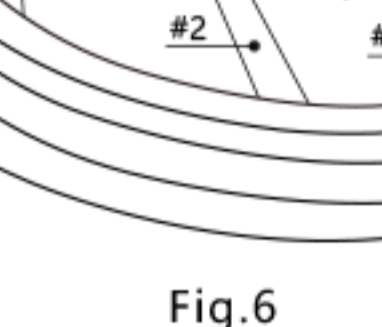

Fig.7
- 2.Take out the 3.5mm adapter to the sound hole, disconnect the 3.5mm plug and the socket, put a wire buckle on the end of the 3.5mm plug and the 3.5mm socket, and move it to the fixed position found inside the guitar. Fix the 3.5mm socket first. Use Use your thumb to scrape off the adhesive sticker on the wire buckle, stick the wire buckle to the back plate, and squeeze the wire buckle to make it fully fit with the back plate. After the 3.5mm socket is fixed, the 3.5mm plug of the pickup is fixed. , Move the 3.5mm plug to the fixed 3.5mm socket, align the jack, clamp the tail of the 3.5mm socket with your index and middle fingers, and gently push the 3.5mm plug into the socket with your thumb. When you insert it, you will hear continuous Two clicks, indicating that the plug is fully inserted into the socket, and then using the same method, gently scrape off the wire buckle adhesive sticker with the thumb to firmly fix the 3.5mm plug on the back panel. Note: It is best to use a rag to clean the dust on the wooden board. When inserting or removing the plug, due to the limited adhesive force of the socket adhesive, remember that you cannot insert it directly. To remove the pickup, use your index finger first. Hold the tail of the 3.5mm socket with your thumb and use your middle finger to pull out the 3.5mm plug with your thumb. An exemplary insertion action is shown in FIG. 7. (It is best to use a rag to clean the dust on the sticking surface of the wooden board before pasting, and the thread buckle adhesive is best roasted with a lighter before tearing it.)